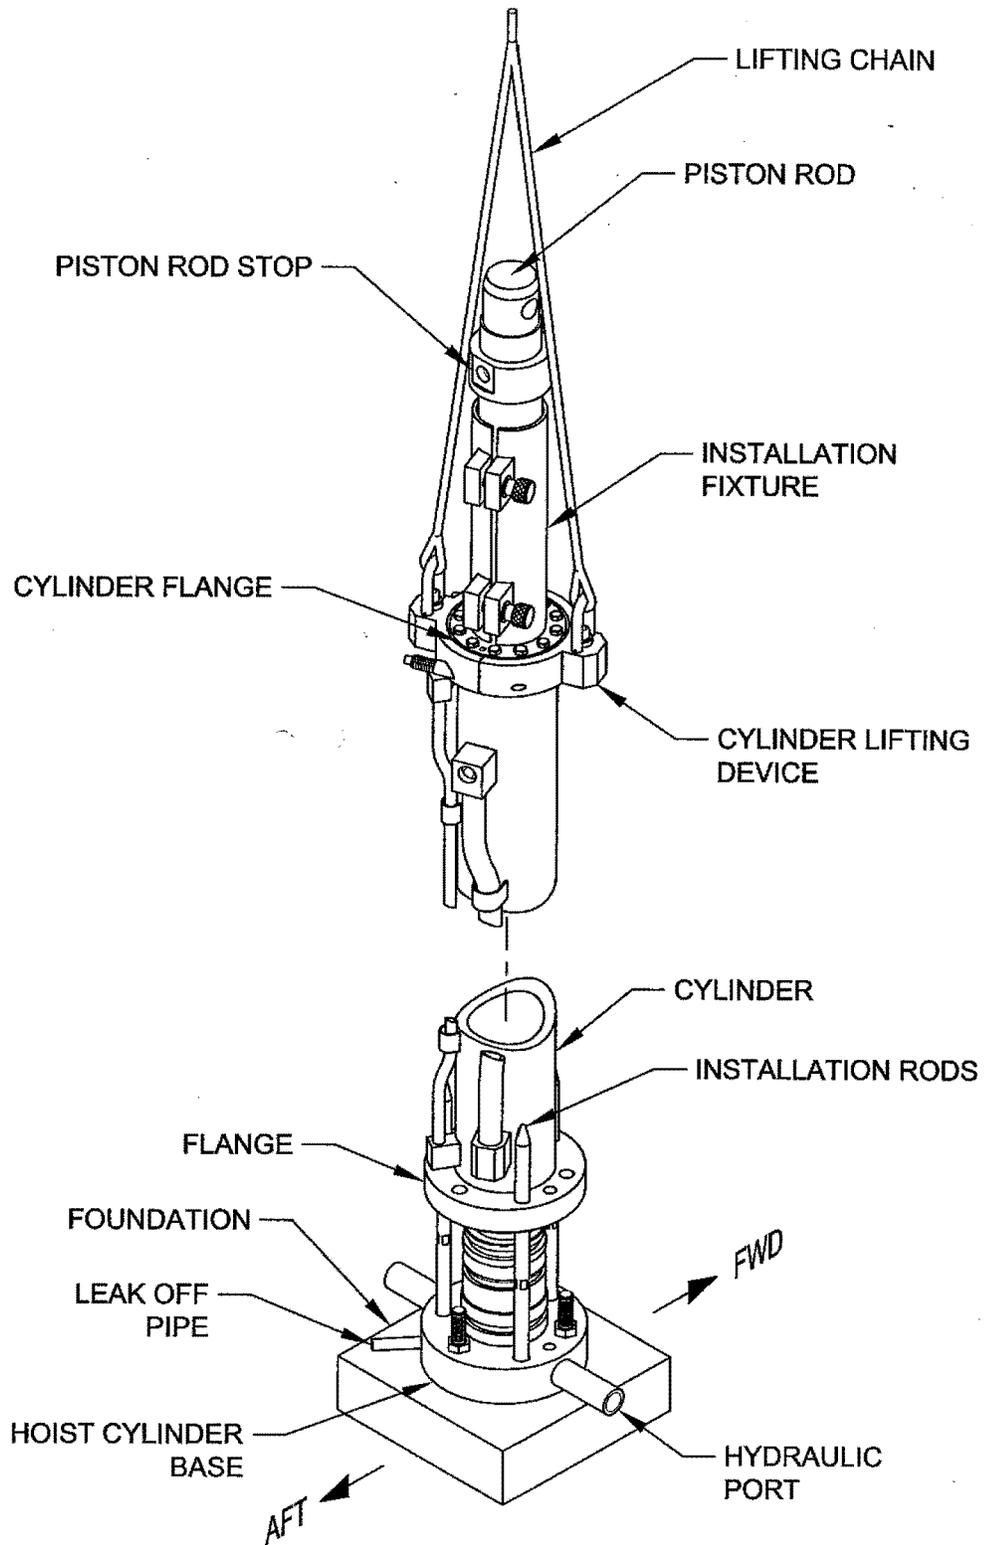

Figure 4-11A Installation of Hoist Cylinder Lifting Device (Assy 382)
- b. Install the installation fixture and hand tight the screws, see Figure 4-11A.
- d. Attach the lifting device (Assy 382, Reference \(a\)) under the hoist cylinder upper flange. See Figure 4-11A.
- f. Attach lifting slings to the swivels, Figure 4-11A.